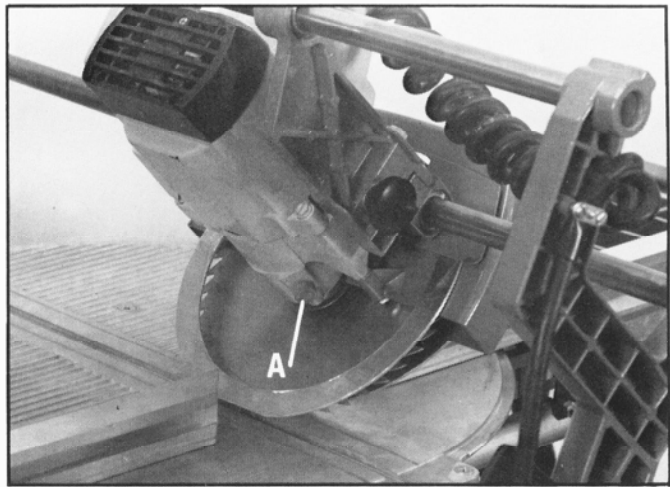
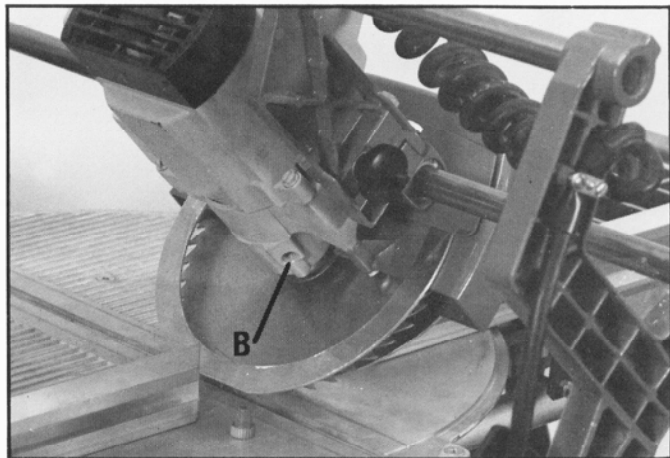

Fig. 74
Fig. 75
The gear chamber in your saw should be lubricated after each 50 hours of use. A plug (A) Fig. 74, is located on the rear bottom of the gear housing. Remove plug (A) Fig. 74, and lubricate gear chamber through hole (B) Fig. 75, with Delta Gear Lubricant, No. 999-02-023-1349.